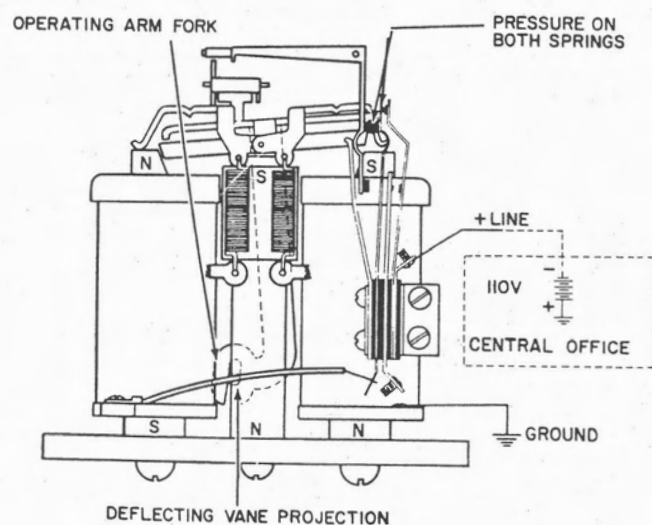

Figure 18. Coin relay - refund.
3.8.1 Incompleted call. When a caller hangs up after an incompleted call; -110 volts dc is applied to the positive line. This reversal of polarity causes the armature to pivot to the left as in figure 18. The operating-arm fork is caused to move to the right as seen by the dotted image in the center of the drawing. Consequently, the fork engaged with the deflecting-vane projection, causes the deflecting vane to move to the right, allowing the trap bottom to drop. The deflecting vane guides the coins to